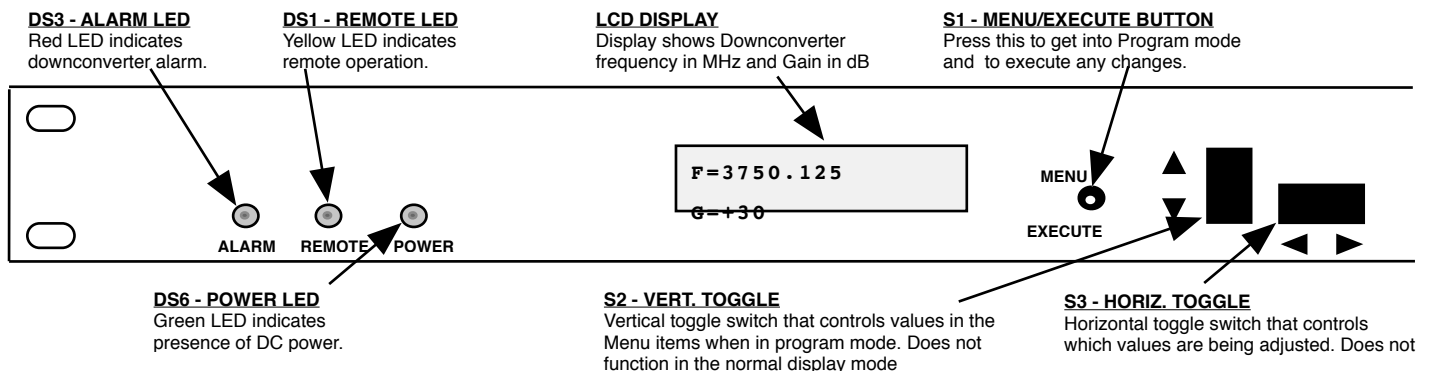

FIGURE 2.3 2016-3442 Front Panel Controls and Indicators
Figure 2.3 shows the front panel controls and indicators.
6. Be sure DS6 (green, DC Power) is on and DS3 (red, Alarm) is off (Figure 2.3).
Alarm indications appear on the LEDs (see figure 2.3).